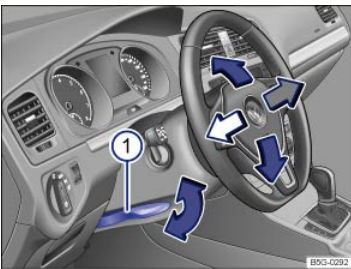

Fig. 49 Manual adjustment for the steering wheel position.
- Push down on the lever ⇒ *Fig. 49*①.
- Always pull the lever ⇒ *Fig. 49*① firmly upward after adjusting the steering column so that the steering wheel does not change position suddenly while the